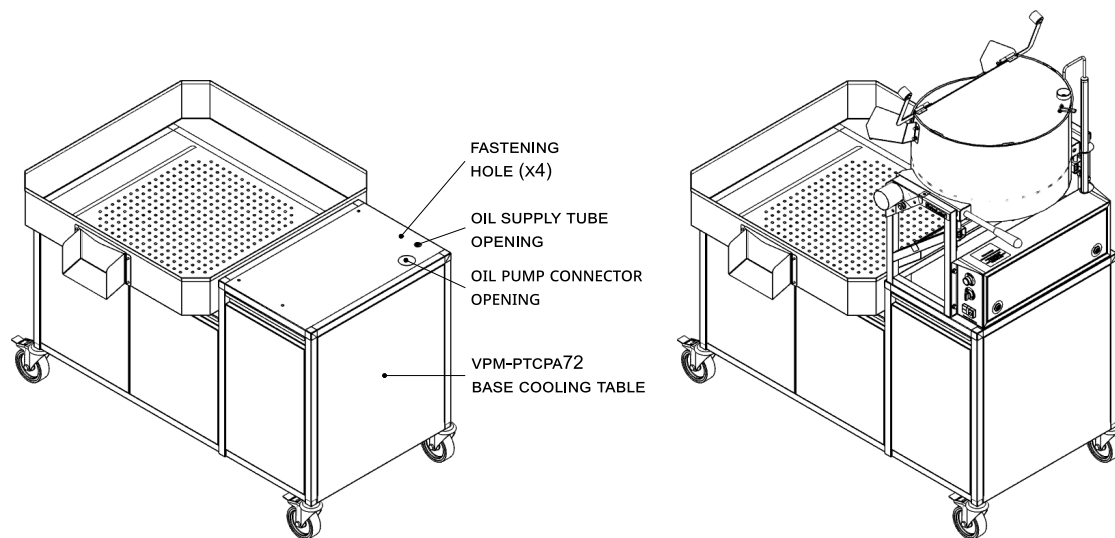
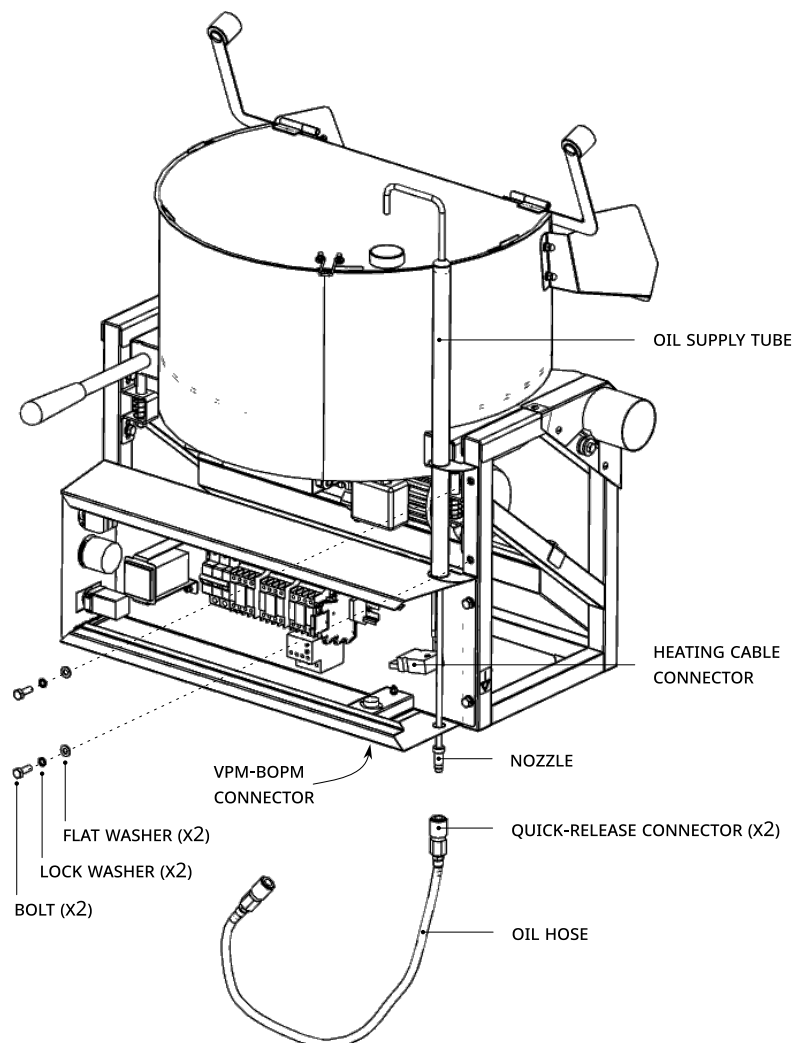

Figure 1: Mounting to VPM-PTCPA72 base table
Figure 2: Oil supply system installation
4. Put the machine on **VPM-PTCPA72 base cooling table**, and secure in place with four screws using **fastening holes**, see Fig. 1.
2. Insert the **oil supply tube** as shown on the Fig. 2, so the nozzle goes through the bottom side of the electric panel and the tabletop of VPM-PTCPA72 cooling base, see Fig. 1.
7. Connect VPM-BOPM oil pump to the **VPM-BOPM connector**, which is available through the oil pump connector opening located in the tabletop of base table (see Fig. 1).